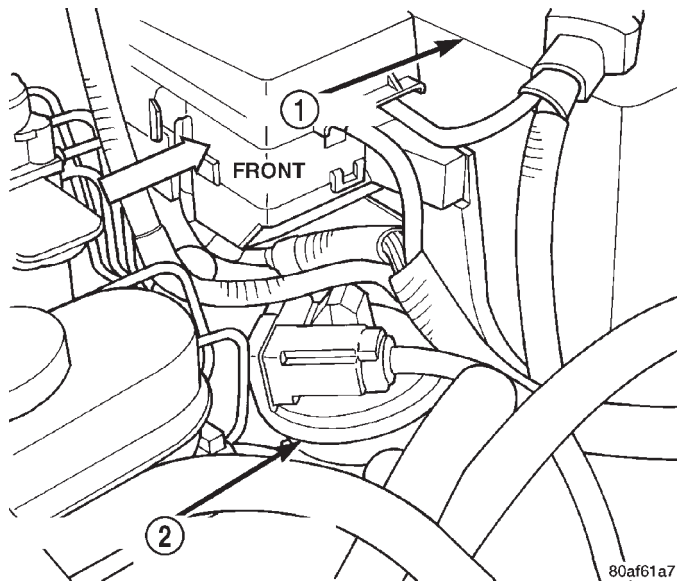
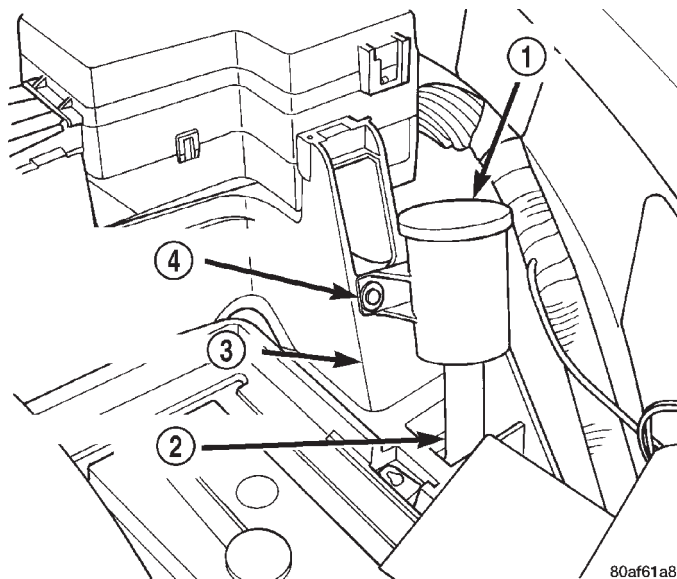

Fig. 24 Leak Detection Pump (LDP) Location
Fig. 25 LDP Filter Location
The LDP is located in the engine compartment under the battery tray and Power Distribution Center (PDC) (Fig. 24). The LDP filter is attached to the outside of battery tray (Fig. 25). The LDP and LDP filter are replaced (serviced) as one unit.
- (1) Disconnect negative battery cable at battery.
- (2) Remove battery. Refer to Group 8A, Battery for procedures.
- (3) Carefully disconnect rubber hose from bottom of LDP filter (Fig. 25).
- (4) Remove clip retaining LDP filter to battery tray (Fig. 25) and remove filter from tray.
- (5) Disconnect battery temperature sensor pigtail wiring harness at bottom of battery tray.
- (6) To gain access to LDP, the PDC must be partially removed. Remove PDC-to-fender mounting screw at rear of PDC. Unsnap PDC from battery tray. To prevent damage to PDC wiring, carefully position PDC to gain access to LDP.
- (7) Remove battery tray. Refer to Group 8A, Battery for procedures.
- (8) Carefully remove vapor/vacuum lines at LDP.
- (9) Disconnect electrical connector at LDP.